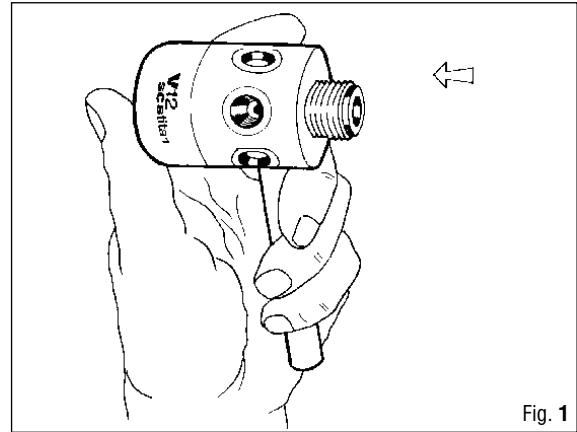

Fig. 1
1. SCREW THE TOOL (B-5) IN A 3/8" LP PORT (Fig. 1).
2. WITH THE 6 MM HEX WRENCH (B-8), UNSCREW THE CONNECTOR FRONT (51) AND REMOVE O-RINGS (50) AND (198) .
3. REMOVE THE CONNECTOR WHEEL (49).
4. WITH THE WRENCH (B-16), UNSCREW THE CONNECTOR BASE (48) AND REMOVE THE O-RING (23).
1. Move the 1ST stage hose protection, and unscrew the hose (26) using a 14-mm open end wrench (B -18).
2. Using a caliper tool (B 25), unscrew and remove the HP housing assembly (4) and remove the spring (8), poppet (9), and pin (12) from the first stage body (1) (Fig. 1).
3. Remove the O-Ring (74) from the HP housing (4).
4. Extract the O-Ring (6) from the HP housing (4).